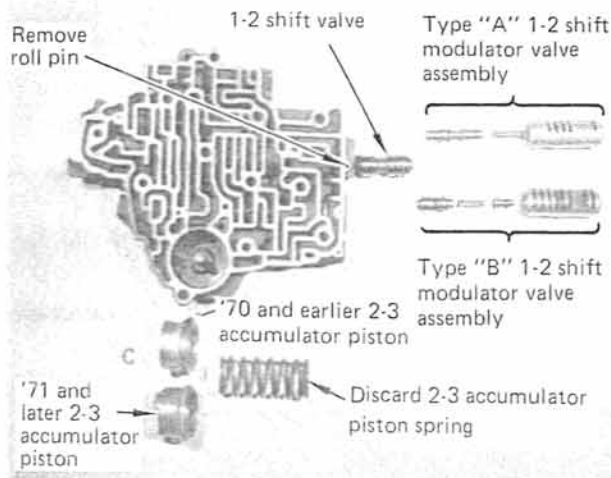
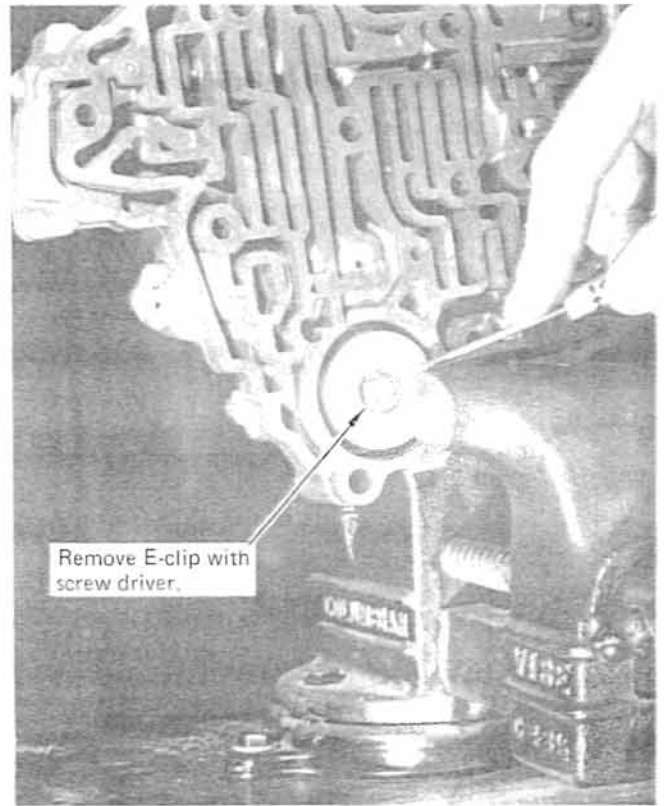

FIGURE 30
FIGURE 32
**STEP 1.** Place the valve body on the bench with the channel side up. Remove the roll pin holding the 1-2 shift modulator valve sleeve in place. (See Fig. 30) Remove the sleeve carefully. This may require a little prying with a small screwdriver. Try not to raise any burrs during removal. Also remove the 1-2 shift valve at the bottom of the bore.
Install the 1-2 shift valve into the bore with the smallest diameter pointing out. (See fig. 30) Reinstall the 1-2 shift
**STEP 2.** Very carefully clamp the valve body in a vise with smooth jaws and compress the accumulator enough to remove the E-clip with a screwdriver. (See Fig. 32) Open the vise slowly and remove the valve body. Remove and discard the accumulator spring underneath the piston. Install the piston as removed. (See Fig. 30) Install the E-clip.